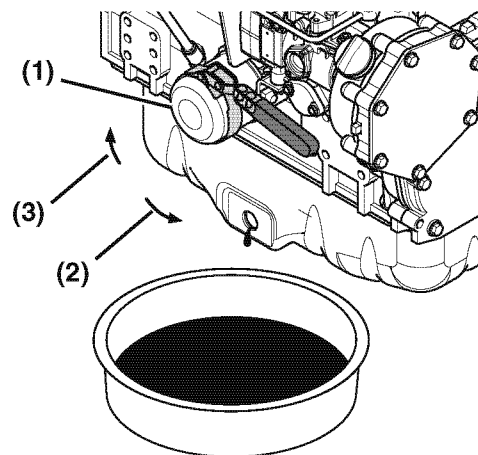

Figure 5-11
1. Turn the engine oil filter (**Figure 5-11, (1)**) counterclockwise (**Figure 5-11, (2)**) using a filter wrench.
3. Lightly coat the gasket on the new oil filter with engine oil. Install the new engine oil filter manually by turning it clockwise (**Figure 5-11, (3)**) until it contacts the mounting surface. Tighten an additional 3/4 of a turn using the filter wrench.
Applicable Engine Oil Filter Part No. (Figure 5-11, (1))